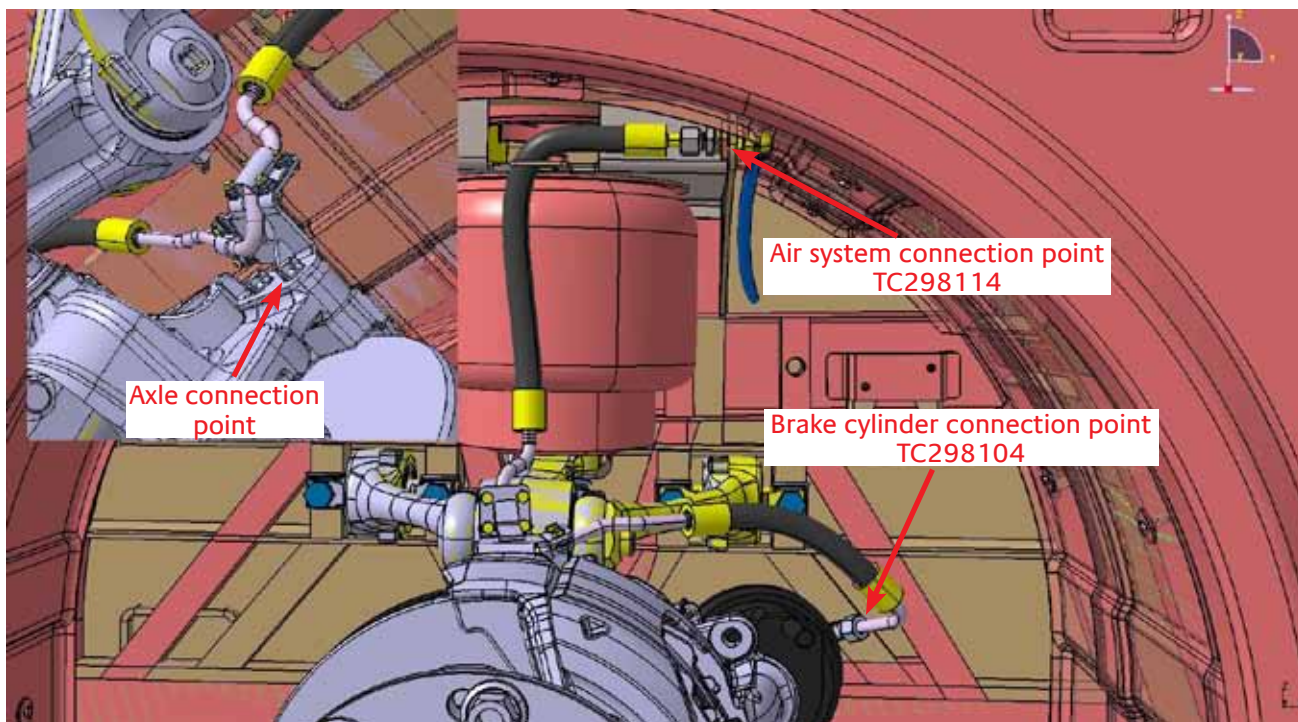

Fig. 8
3. Right tire hose will be removed from vehicle by disconnecting it from 3 connection points as shown in Fig. 8.